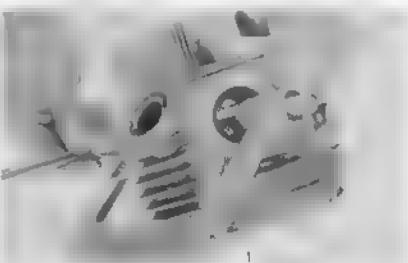

Fig. 3.17 Disassembling the valves ① Valve lifter
① Woodruff key ② Dowel pin hole
10. Disassemble the valves using a valve lifter ① (Tool No. 07031 20001). (Fig. 3.17)